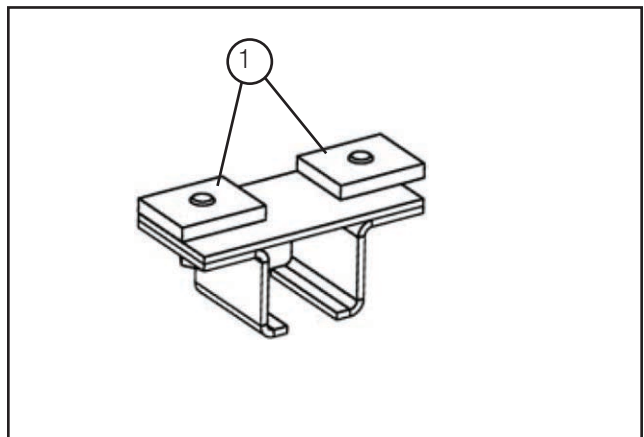

Figure 7-3
2. Bolt the section loosely in place, joining the ends of the channels with splice joints as you progress. See **Figure 7-3**.